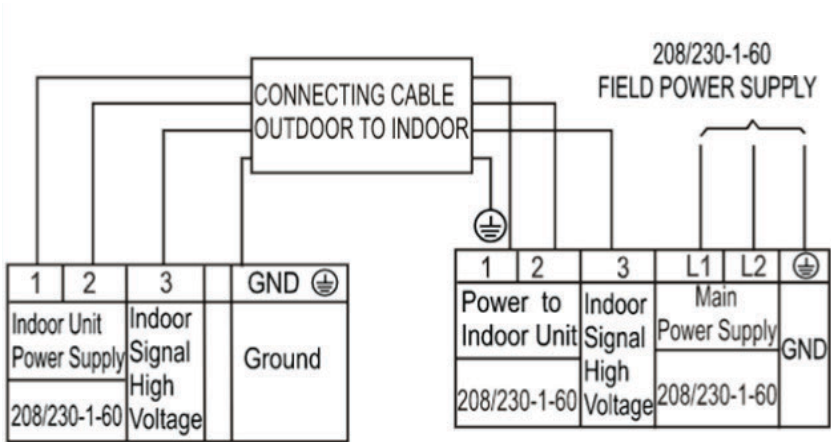

Fig. 1 — Connection Diagram 208-230V
- 2. All connections between the indoor and outdoor units must be as shown in Figure 1. The connections are polarity sensitive and **improper wiring will result in a fault code.**